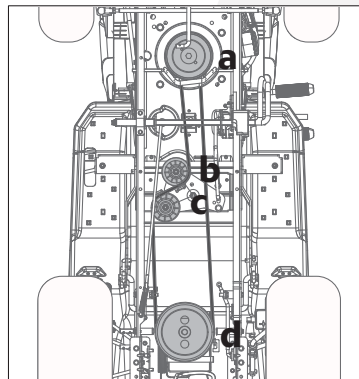

Fig. 30
2. Remove the drive pulley assembly (a, Fig. 30) by removing the bolt that fastens it to the engine output shaft.
3. Remove the two pulleys (b and c, Fig. 30) by removing the nuts that fastens them to the mounting bracket.
4. Slip the belt off the transmission pulley. (d, Fig. 30)